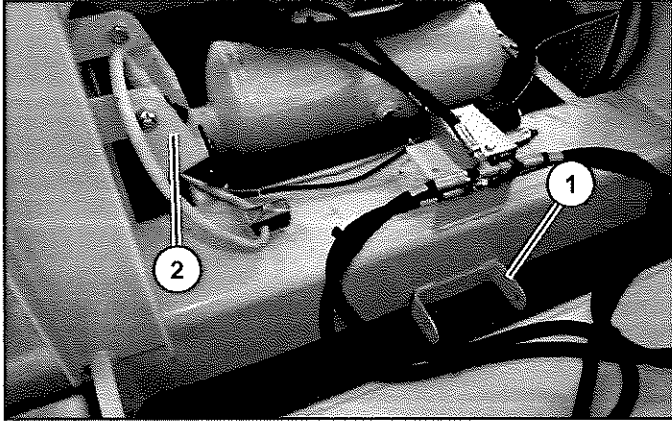

Figure 106
12. Move the radial photo eye from operating position (Item 1) to transport position (Item 2) (**Figure 106**).